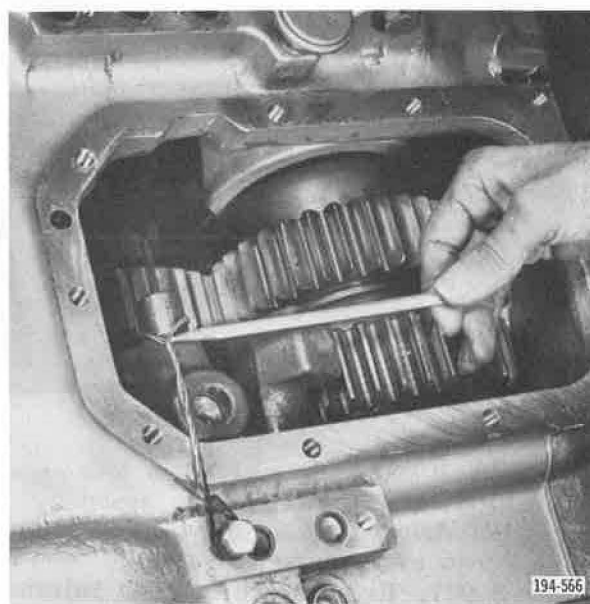

Figure 5-974. Wire Holding Shift Fork
4. Remove wire previously installed to hold Direct/Hi-range shift fork. See Figure 5-974.